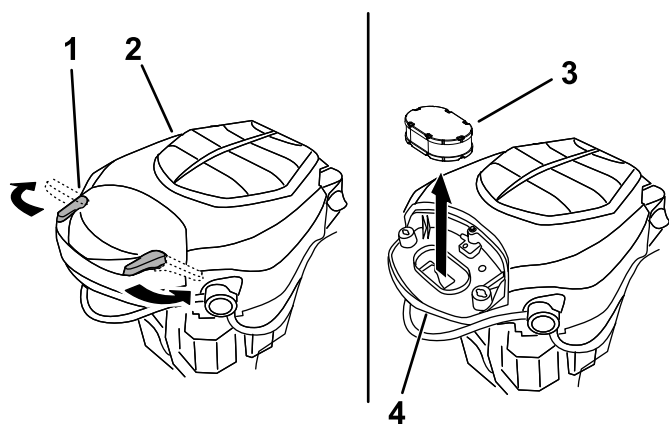

Figure 33
3. Install the cover and secure it with the latches (Figure 33).